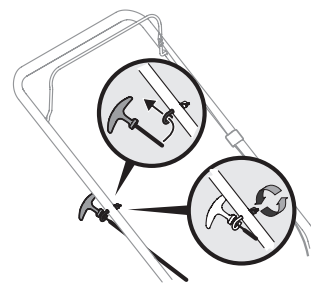

Figure 3
3. Loop the rope through the eye bolt. See Figure 3.